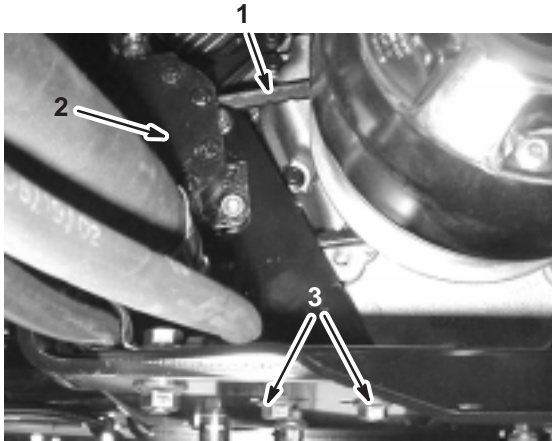

Figure 48
2. Loosen the steering pump mounting bolts (Fig. 48).